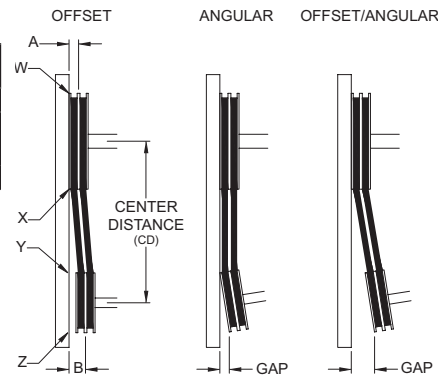

Figure 2
4. Ensure pulleys are properly aligned. Refer to *Figure 2*.
*Figure 2* indicates where to measure the allowable gap for the drive alignment tolerance. All contact points (indicated by WXYZ) are to have a gap less than the tolerance shown in the table. When the pulleys are not the same width, the allowable gap must be adjusted by half of the difference in width. *Figure 3* illustrates using a carpenter's square to adjust the position of the motor pulley until the belt *Figure 3* is parallel to the longer leg of the square.